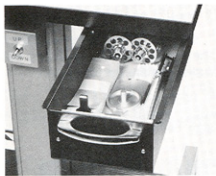

Fig. 19
**(9) Storage of Accessories**
Store the standard accessories supplied with the instrument in the accessory drawer②, as shown in Fig. 19, in the case of table①.